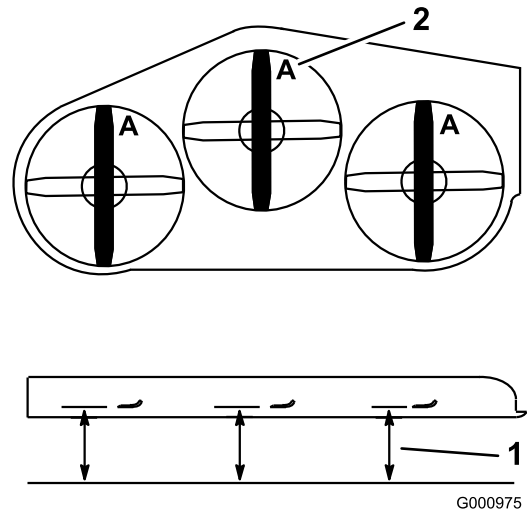

**Figure 94**
1. Inspect the cutting edges (Figure 94).
4. If you notice any cracks, wear, or a slot forming in this area, immediately install a new blade (Figure 94).